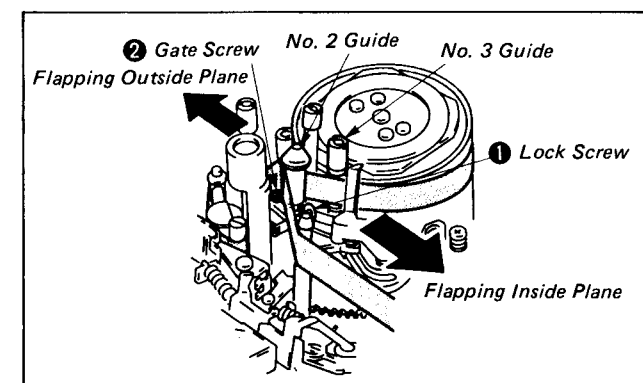

Fig. 1-73
1) Replay the tracking alignment tape, loose No. 2 guide lock screw ①, rotate No. 2 and 3 guides counter-clockwise, and free the tape run on the inlet side. (See Fig. 1-73.)
6) Tighten No. 2 lock screw ①. (See Fig. 1-73.)